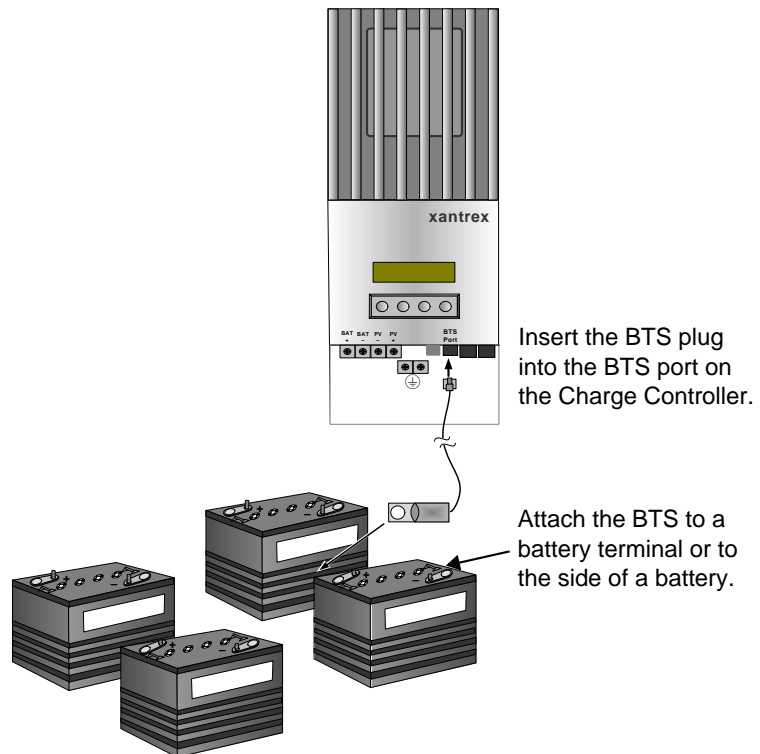

Figure 2-19 Installing the BTS
4. Pass the end of the BTS cable through a conduit hole on the Charge Controller and insert the BTS plug into the BTS port. See Figure 2-19.